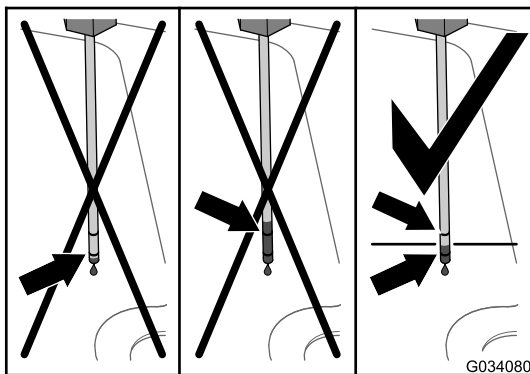

Figure 99
6. Remove the dipstick and check the fluid level (Figure 99).
7. Add the specified hydraulic fluid into the fill tube until you can see that the fluid level is between the 2 marks the dipstick (Figure 99).